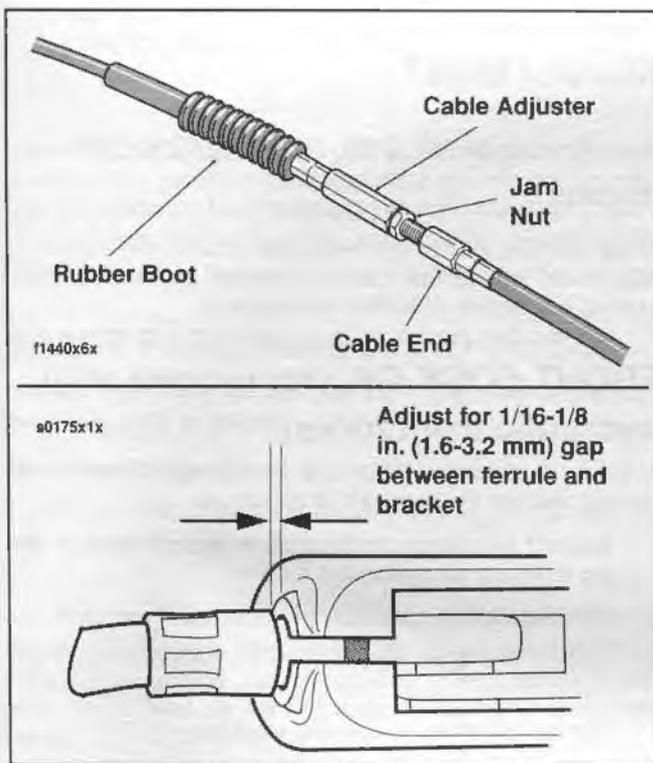

Figure 1-7. Clutch Cable Adjuster
3. See Figure 1-7. The cable adjuster is located midway between the clutch cable ends. Push rubber boot upwards on the cable until the adjuster is exposed. Loosen nut and turn adjuster all the way in to provide slack in cable.
4. See Figure 1-7. Loosen clutch adjuster screw jamnut and turn push rod adjusting screw inward (clockwise) to take up all free play in pushrod.
6. See Figure 1-7. Squeeze clutch lever to maximum limit three times to set ball and ramp release mechanism. Pull outer cable conduit and at the same time adjust cable adjuster to provide 1/16-1/8 in. (1.6-3.2 mm) free play at hand lever. Tighten clutch cable adjuster jamnut and place boot over adjuster.